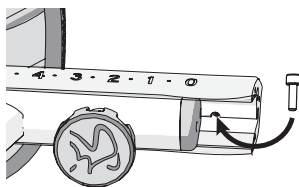

Figure 7
2. Insert one bolt **3** into the underside of the seat slider and fully tighten it to set the travel limit (Figure 7).